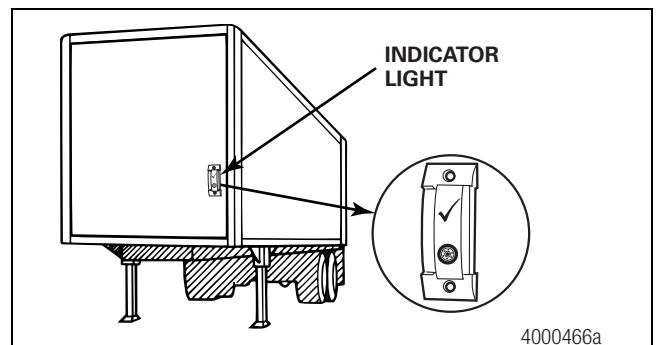

Figure 3.4
6. Check that the indicator light comes ON as air flows from the through-tee and turns off when the air flow stops. Figure 3.4.